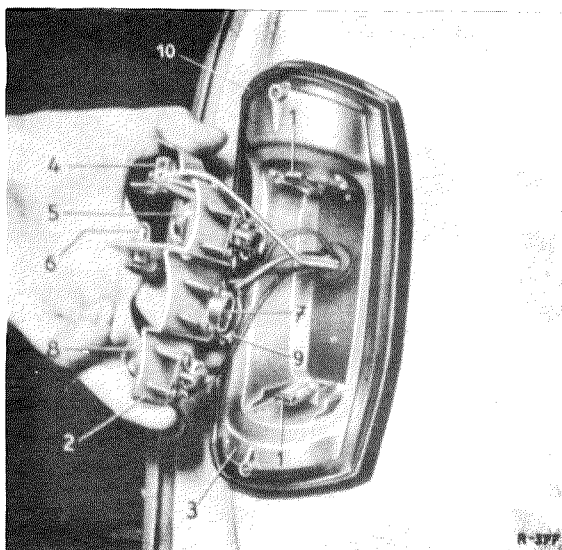

Fig. 82—13/1
**Note:** The base plate (2) is held in place in the housing (3) by the two springs (1) (Fig. 82—13/1).